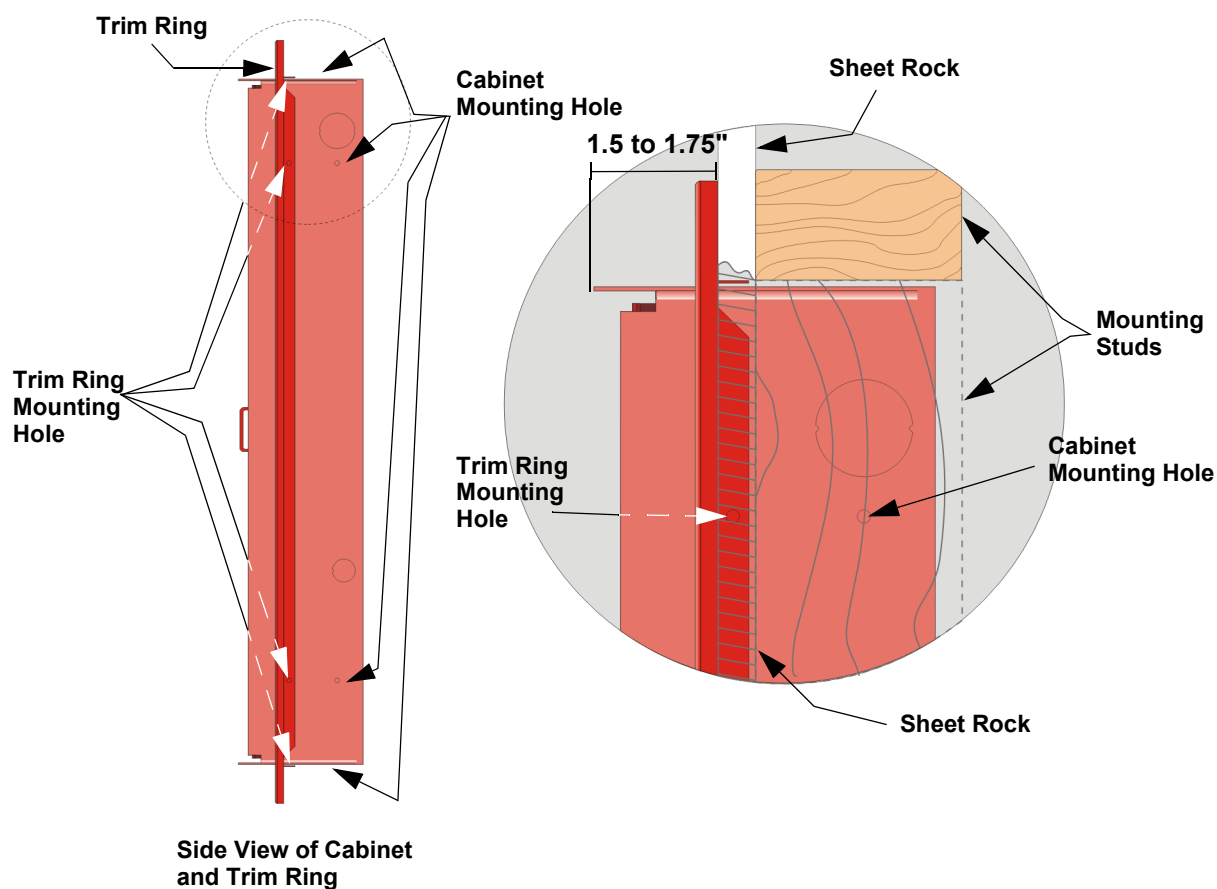

Figure 3-2 Detail of Flush Mounting with Trim Ring
2. Cut a recess hole 20-1/4" W x 26-3/4" H (51.44 cm W x 67.95 cm H). There should be 1.5" to 1.75" of cabinet extruding from the wall, this should be measured from either the top edge or bottom edge to the exterior side of the sheet rock. (See Figure 3-2.)